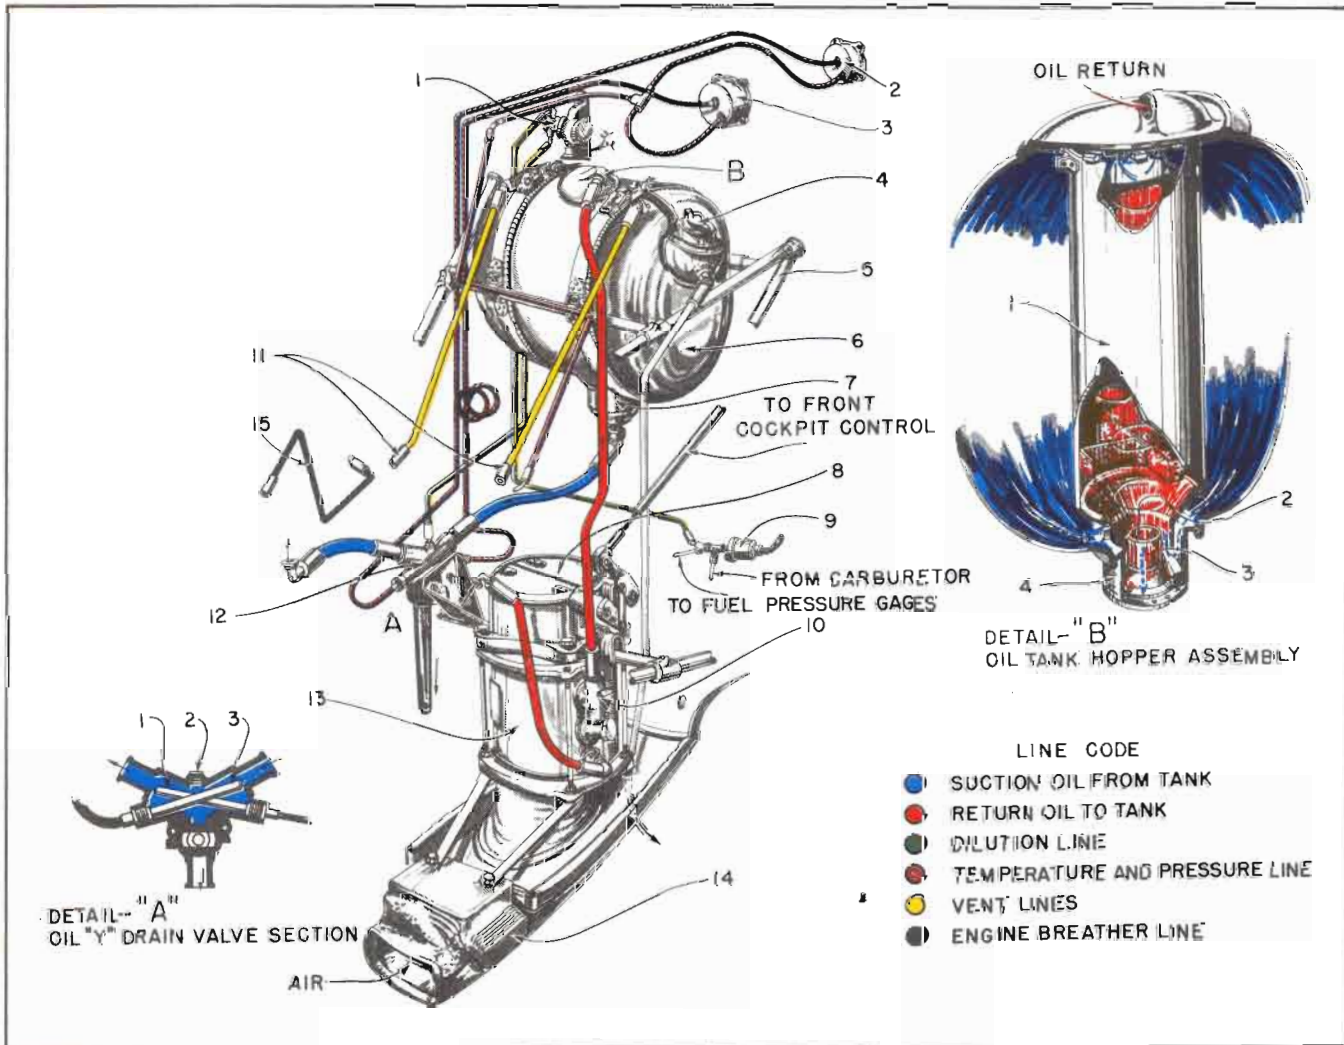

Figure 153 — Oil System Diagram
a. GENERAL.—(See figures 153 and 154.)—The oil system consists of an oil tank, and oil cooler, an engine-driven oil pump, an oil Y-drain valve, pressure and temperature indicators, and the necessary piping to carry the oil to and from the engine. The oil in the system flows from the bottom of the oil tank to the engine pressure pump. After circulating through the engine, the engine scavenger pump forces the oil back to the tank, either directly or through the oil temperature regulator, depending upon its temperature. The return flow of the oil to the tank is determined by a thermostatically controlled bypass valve at the oil temperature regulator. Oil system lines, including oil pressure lines, are identified with a *bright yellow band* about $\frac{3}{4}$ inch wide. (Refer to section III, paragraph 3 for servicing instructions.)